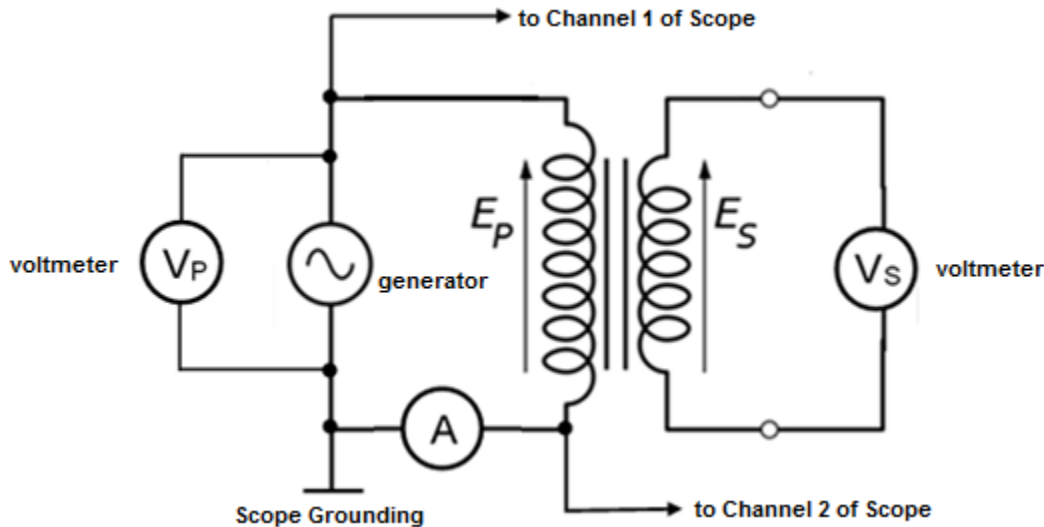
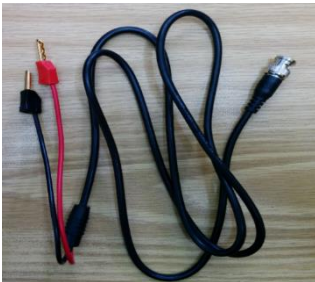

Figure 11: Electrical circuit for non-load transformer measurements, see explanation in section 1.
Figure 12: Coaxial cables
1. Connect the circuit and multimeters to measure voltage and current in the primary coil and secondary coil as shown in Figure 11. Connect the scope to a circuit using two coaxial cables (see fig. 12).
channel 2 of the Scope in parallel to the voltmeter which measures I_p (see Figure 11). The voltmeter has a small internal resistance: $\sim 0.1\Omega$ and if the voltage is measured on the voltmeter, then this voltage will be proportional to the current, for example, it will have the same phase. In this manner, the phase of the current can be measured. .